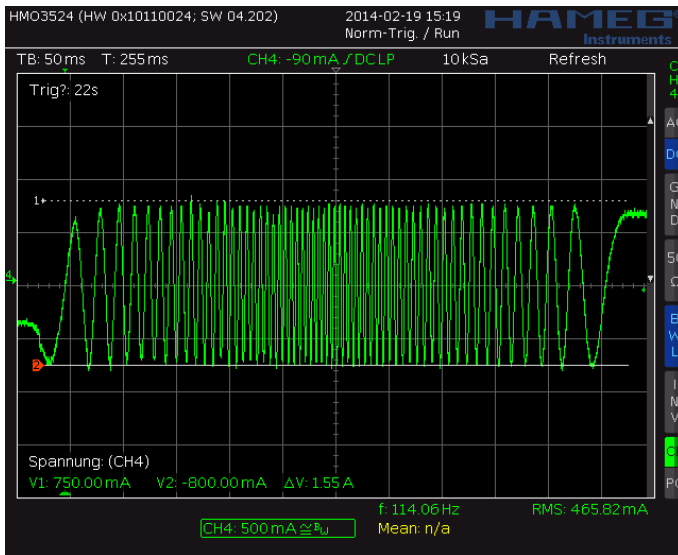
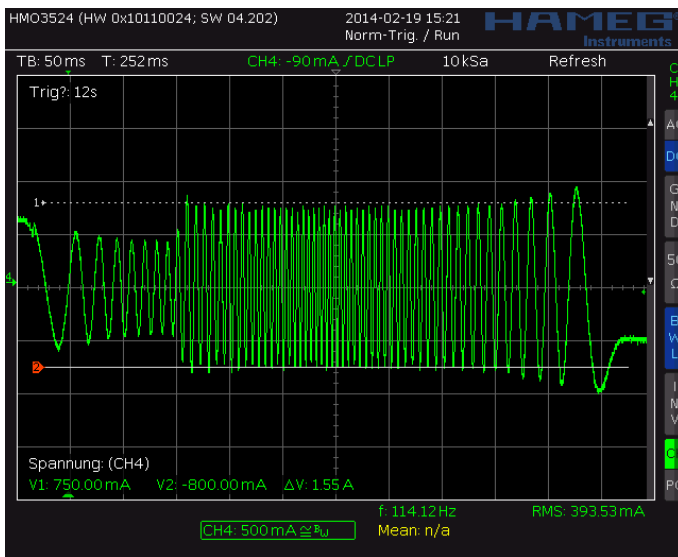
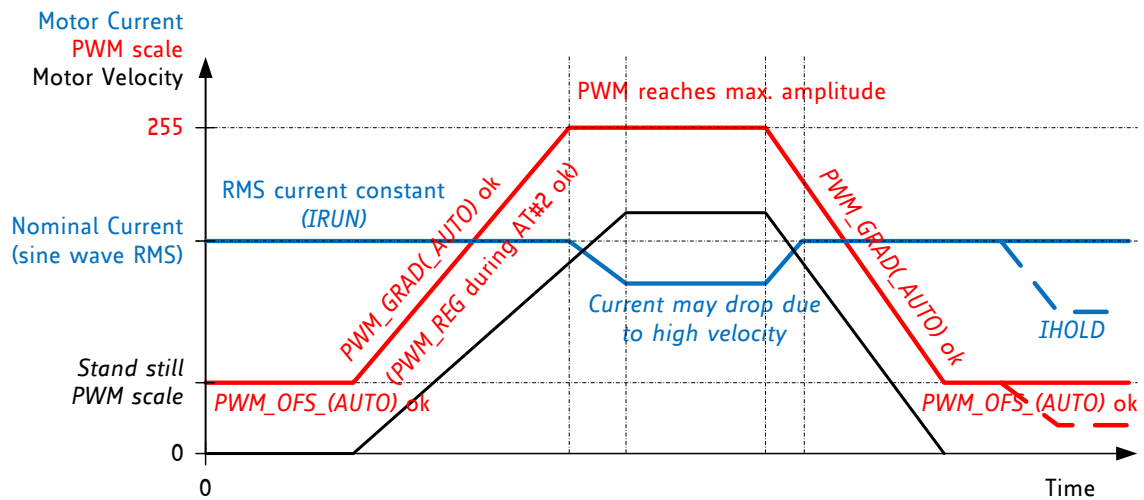

Figure 6.3 Scope shot: good setting for PWM_REG
Figure 6.4 Scope shot: too small setting for PWM_REG during AT#2
Figure 6.5 Successfully determined PWM_GRAD(AUTO) and PWM_OFS(AUTO)
In StealthChop voltage PWM mode, the autoscaling function ($pwm_autoscale = 1$, $pwm_autograd = 1$) regulates the motor current to the desired current setting. Automatic scaling is used as part of the automatic tuning process (AT), and for subsequent tracking of changes within the motor parameters. The driver measures the motor current during the chopper on time and uses a proportional regulator to regulate PWM_SCALE_AUTO in order match the motor current to the target current. PWM_REG is the proportionality coefficient for this regulator. Basically, the proportionality coefficient should be as small as possible in order to get a stable and soft regulation behavior, but it must be large enough to allow the driver to quickly react to changes caused by variation of the motor target current (e.g. change of VREF). During initial tuning step AT#2, PWM_REG also compensates for the change of motor velocity. Therefore, a high acceleration during AT#2 will require a higher setting of PWM_REG . With careful selection of homing velocity and acceleration, a minimum setting of the regulation gradient often is sufficient ($PWM_REG=1$). PWM_REG setting should be optimized for the fastest required acceleration and deceleration ramp (compare Figure 6.3 and Figure 6.4). The quality of the setting PWM_REG in phase AT#2 and the finished automatic tuning procedure (or non-automatic settings for PWM_OFS and PWM_GRAD) can be examined when monitoring motor current during an acceleration phase Figure 6.5.